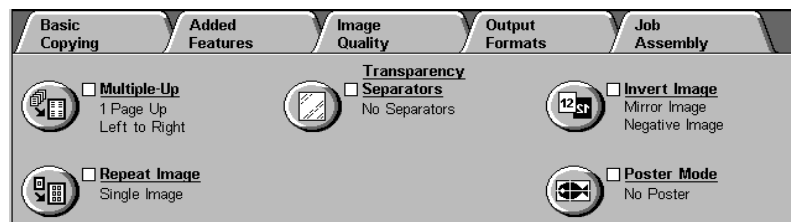

**Figure 42: Color Balance screen**
- 1 Touch the **Variable Color Balance** button on the Image Quality tab to display the Color Balance screen, as illustrated in Figure 42.